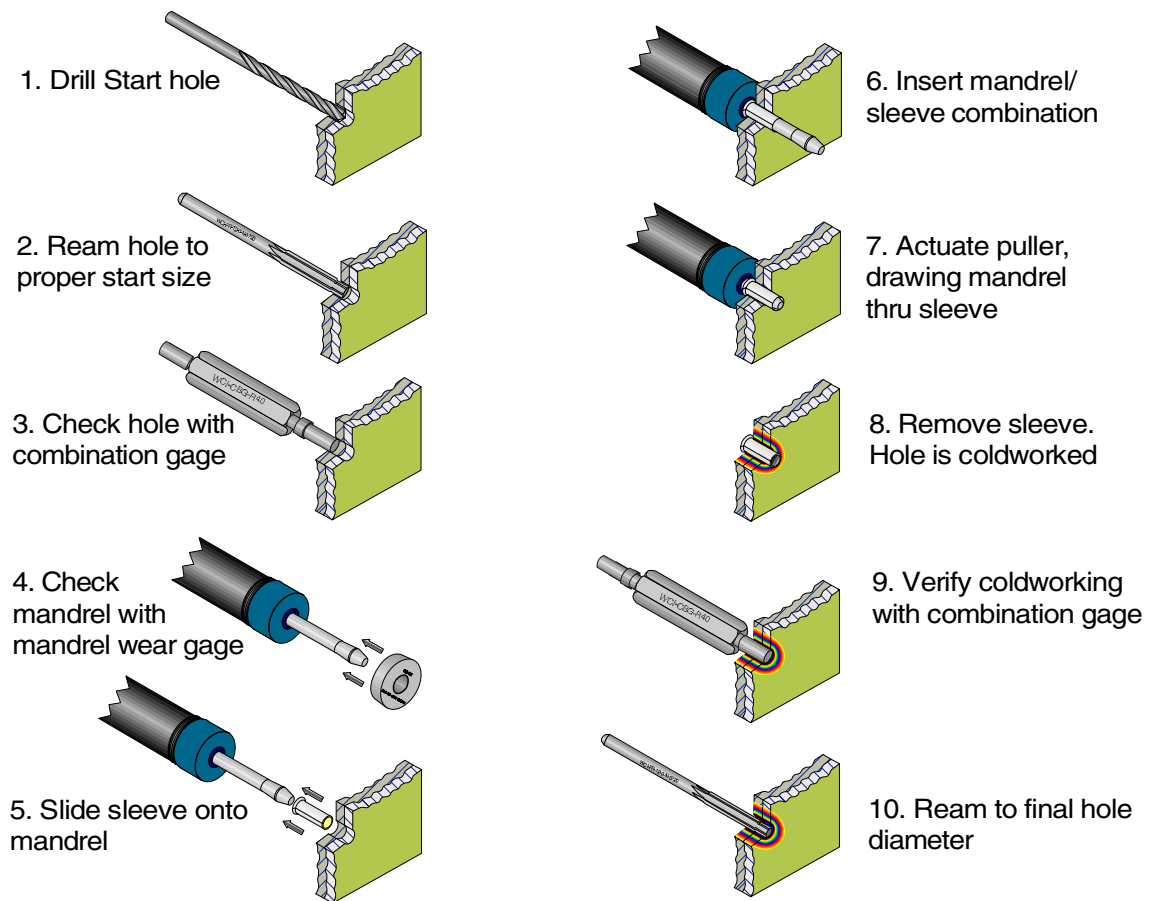

Figure 4-04 — Split Sleeve Coldworking Process (One Piece Mandrel)
4.7 Coldworking Procedures Ref. Figure 4-04